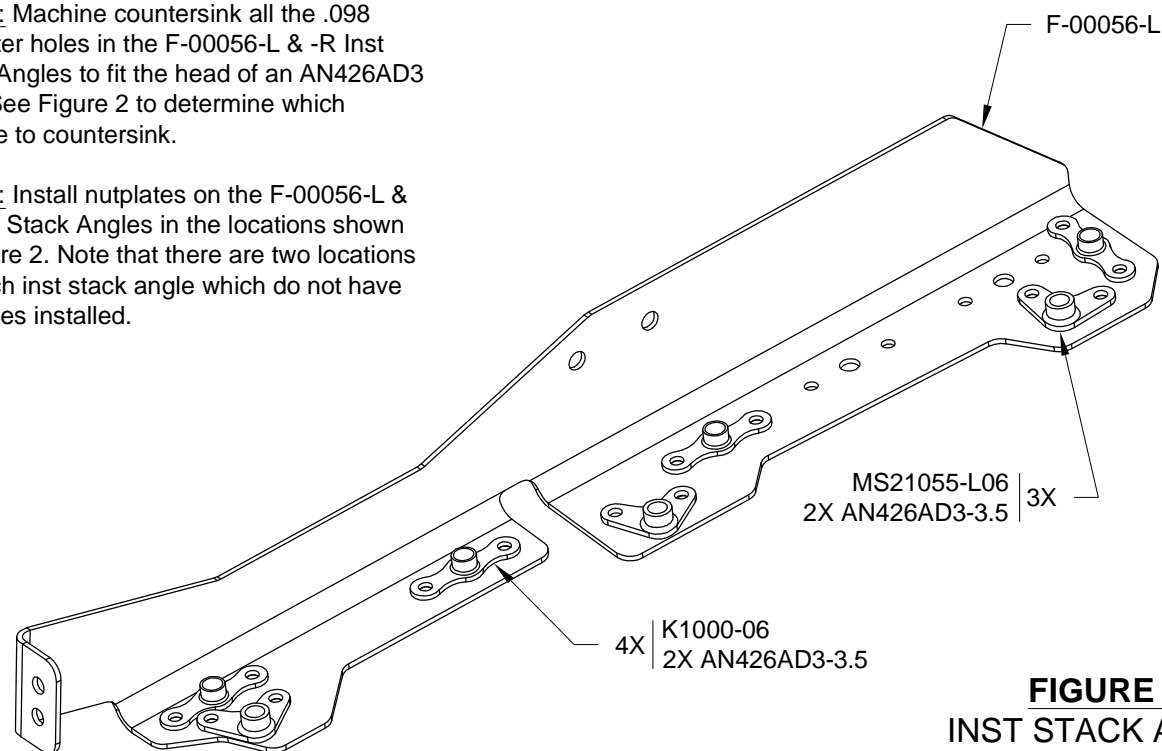

FIGURE 2:
Step 2: Machine countersink all the .098 diameter holes in the F-00056-L & -R Inst Stack Angles to fit the head of an AN426AD3 rivet. See Figure 2 to determine which surface to countersink.
Step 3: Install nutplates on the F-00056-L & -R Inst Stack Angles in the locations shown in Figure 2. Note that there are two locations on each inst stack angle which do not have nutplates installed.